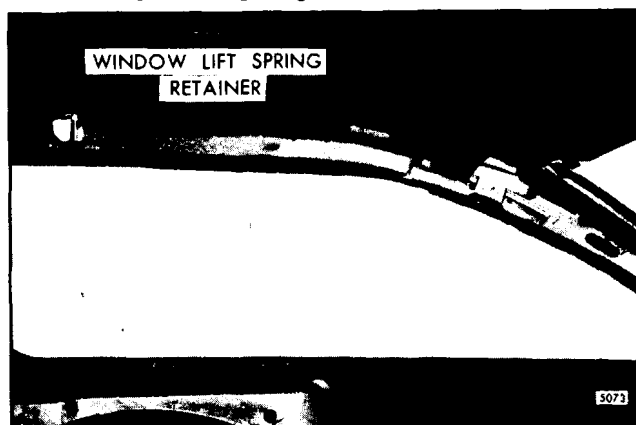

Fig. 9-7-Window Right Cam Guide Access - Front
4. Detach headlining over right quarter glass sufficiently to reveal access hole at forward attaching location of window right cam guide (Fig. 9-7).
3. Detach headlining over right quarter glass sufficiently to reveal access hole at forward attaching location of window right guide cam guide (Fig. 9-7).